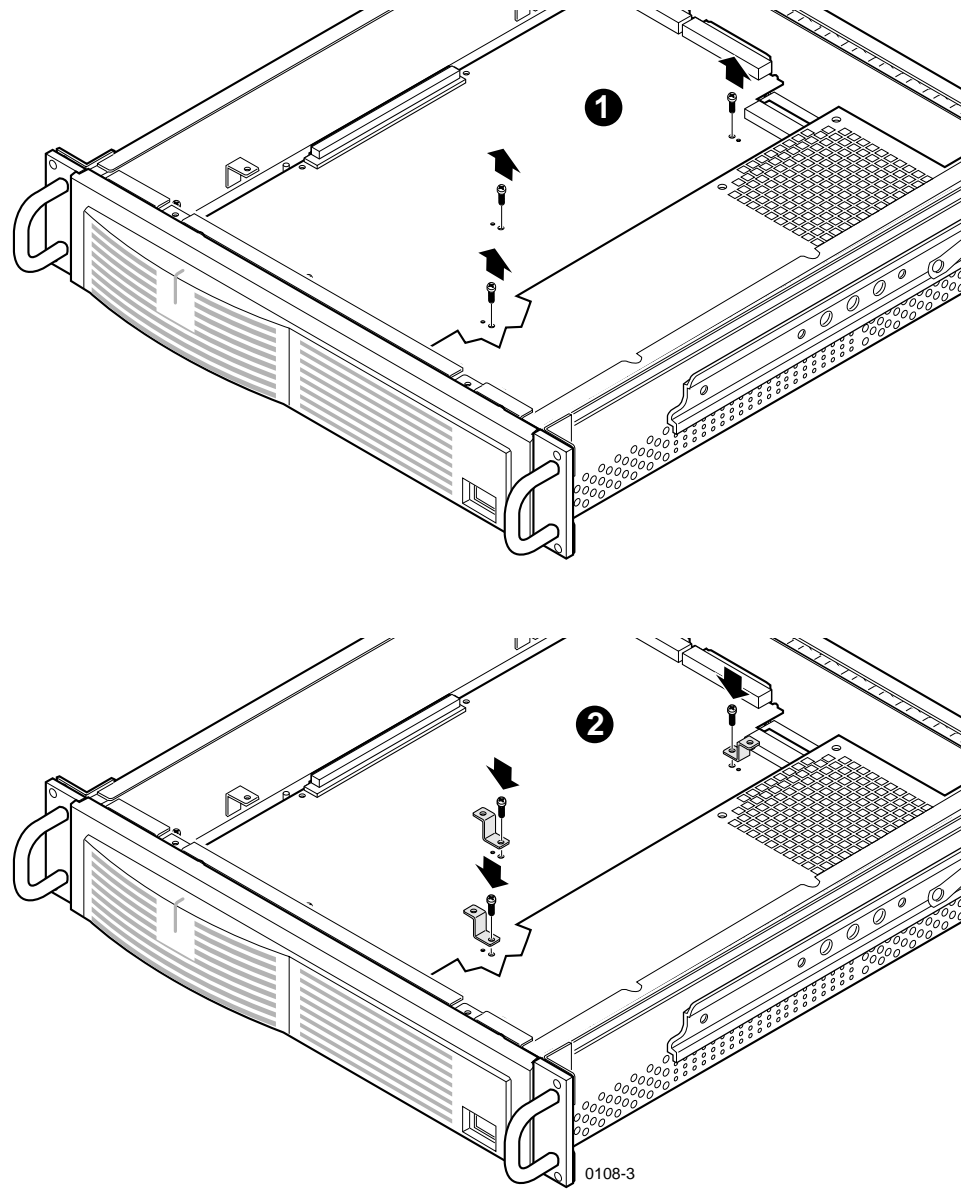

Figure 2. Removing screws from motherboard and installing mounting brackets
1. Use the Torx tool with the T15 tip to remove the three screws from the motherboard inside the chassis (❶ in Figure 2).
2. Install the three mounting brackets (❷ in Figure 2) using the three screws removed in step 1. Make sure to orient the dimple on the bottom of the bracket with the corresponding hole in the motherboard.